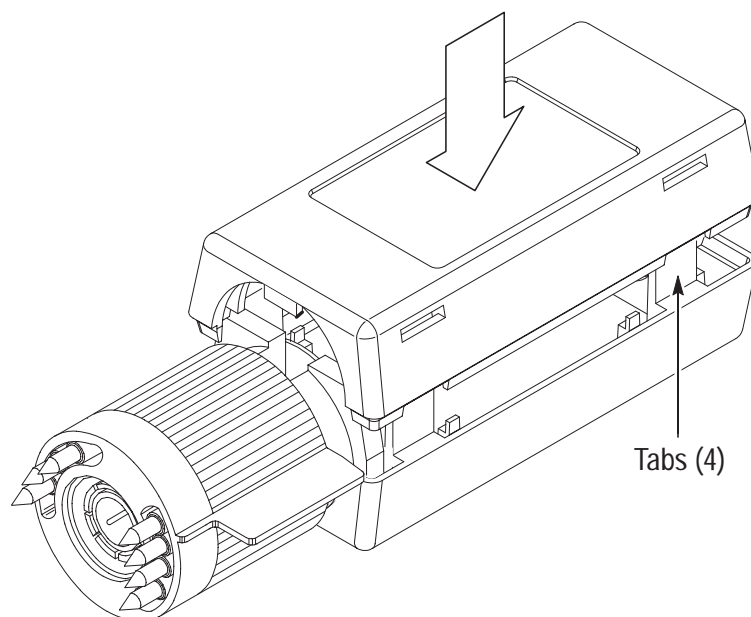

Figure 20: Replacing the compensation box cover
1. Align the tabs with the notches on the cover halves. Refer to Figure 20.